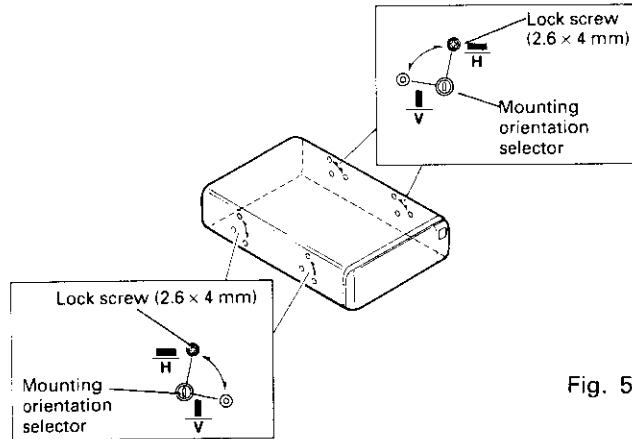

Fig. 5
- The player is set for horizontal use. Check that the lock screws (2.6 x 4 mm) that hold the shock absorption springs in the correct position are in the holes for H (horizontal) use, as shown in Fig. 5.